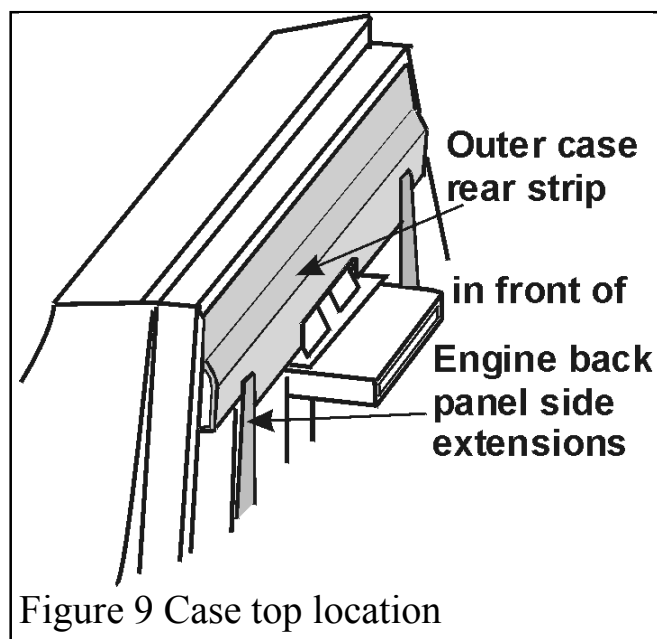

Figure 9 Case top location
- Refit the outer case. The outer case top rear strip should locate in front of, but touching, the side extensions of the engine back panel. See figure 9.
9.2.4. Replace in the reverse order. Make sure that the outer case top rear strip locates in front of, but touching, the side extensions of the engine back panel. See figure 9 in the installation section.